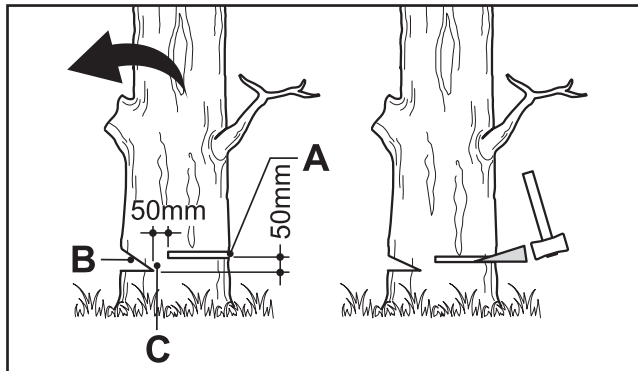

Fig. 26
Make the notch (Fig. 26, B) 1/3 the diameter of the tree, perpendicular to the direction of fall (Fig. 26). Make the lower horizontal notching cut first. This will help to avoid pinching either the saw chain or the guide bar when the second notch is being made.
1. Make the felling back cut (Fig. 26, A) at least 50 mm higher than the horizontal notching cut (Fig. 26). Keep the felling back cut parallel to the horizontal notching cut. Make the felling back cut so enough wood is left to act as a hinge. The hinge wood (Fig. 26, C) keeps the tree from twisting and falling in the wrong direction. Do not cut through the hinge.